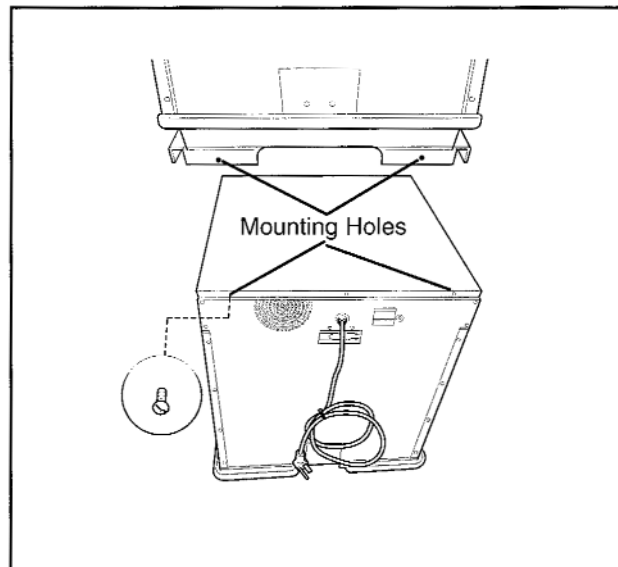

Figure 6. Model 5-Pan Stacking Ovens
1. See Figure 6. The top unit intended for stacking has a mounting bracket attached to the bottom in place of casters.